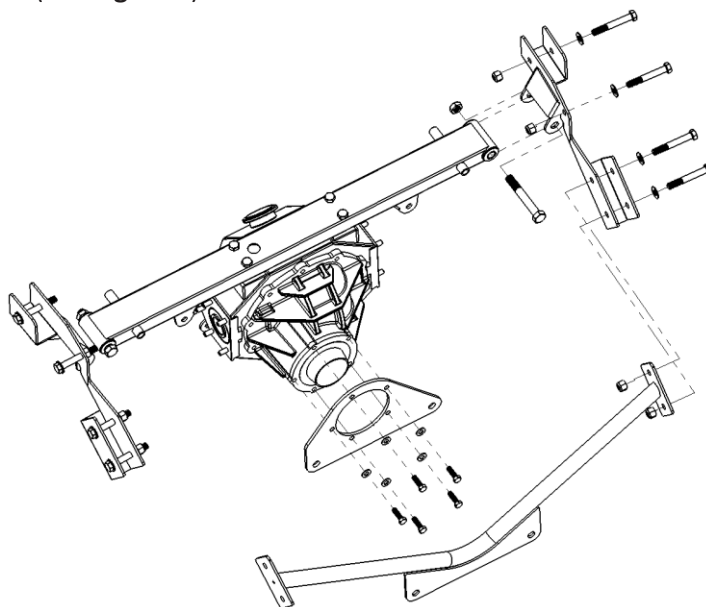

Figure 9. Exploded view of the housing and crossmember, 3rd member, pinion plate and pinion support.
- 14) The pinion plate is installed onto the pinion assembly using the bolts that secure the pinion assembly into the 3rd member. Remove the factory bolts and install the plate with the new bolts supplied. The coarse thread bolts are for iron 3rd members. At this point, install the pinion support crossmember using the forward saddle bolts. (See Figure 9)